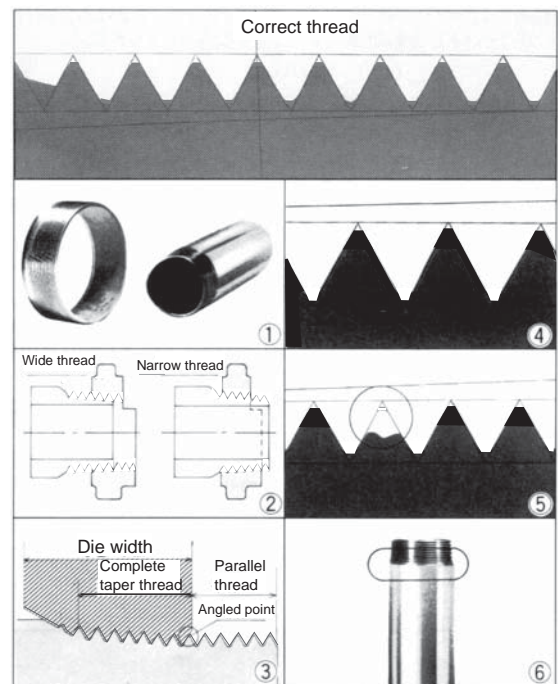

Fig. 32
- Irregular shaped threads (Fig. 32 - 1)
- The diameter of the thread is too small or too large (Fig. 32 - 2)
- Distorted threads (in the case of manual die heads) Fig. 32 - 3)
- Threads are too small (Fig. 32 - 4)
- The thread is chipped (Fig. 32 - 5)
- Thread with uneven thickness (Fig. 32 - 6)